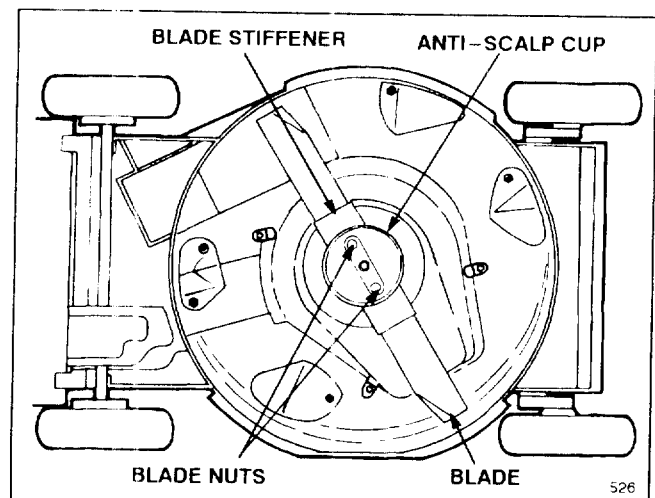

Figure 24
3. Tip mower on its left side (Fig. 24).
5. REMOVING BLADE—Grasp end of blade using a rag or thickly padded glove. Remove blade nuts, anti-scalp cup, blade stiffener, and blade (Fig. 24).